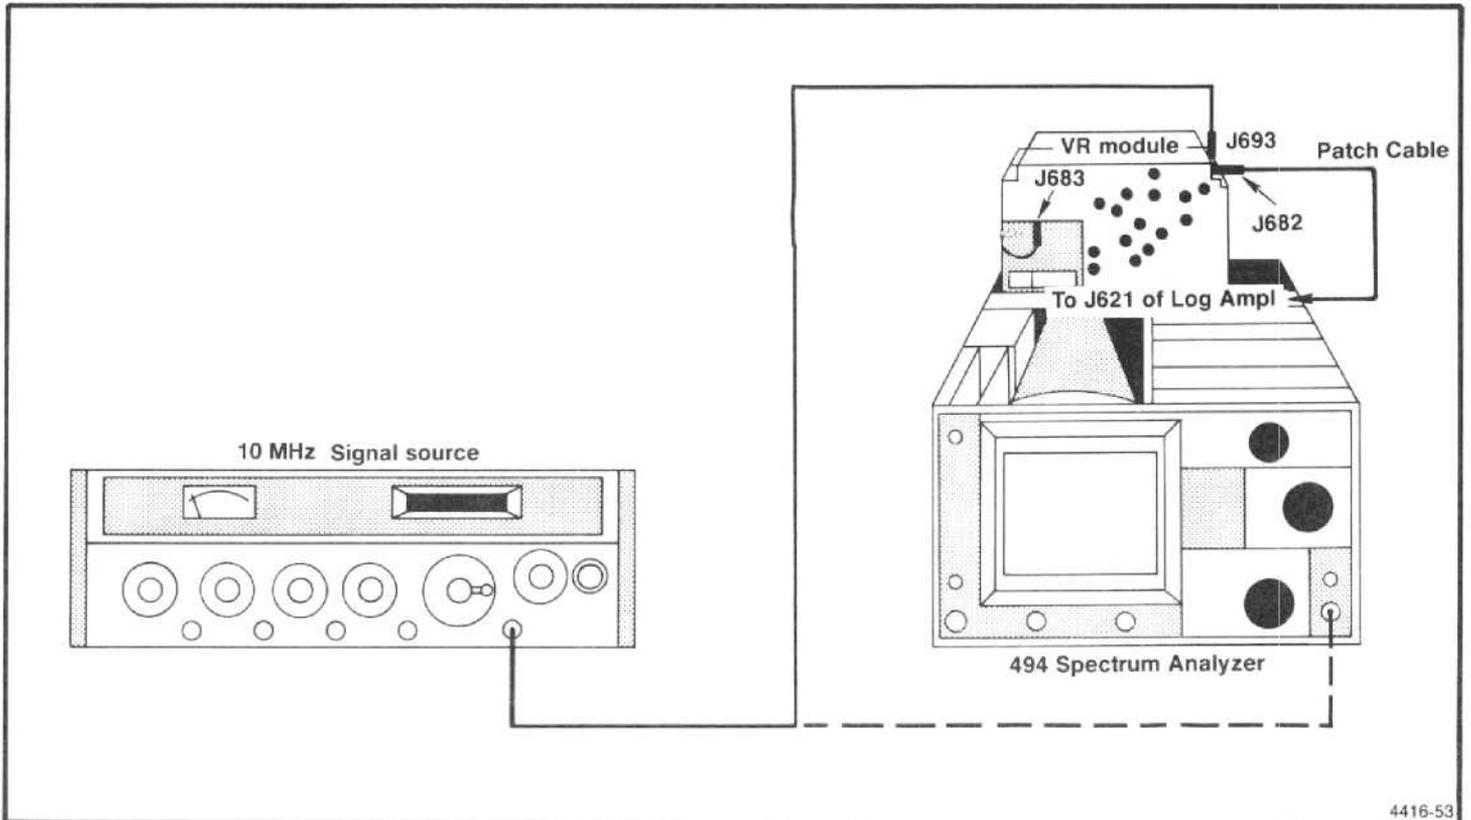
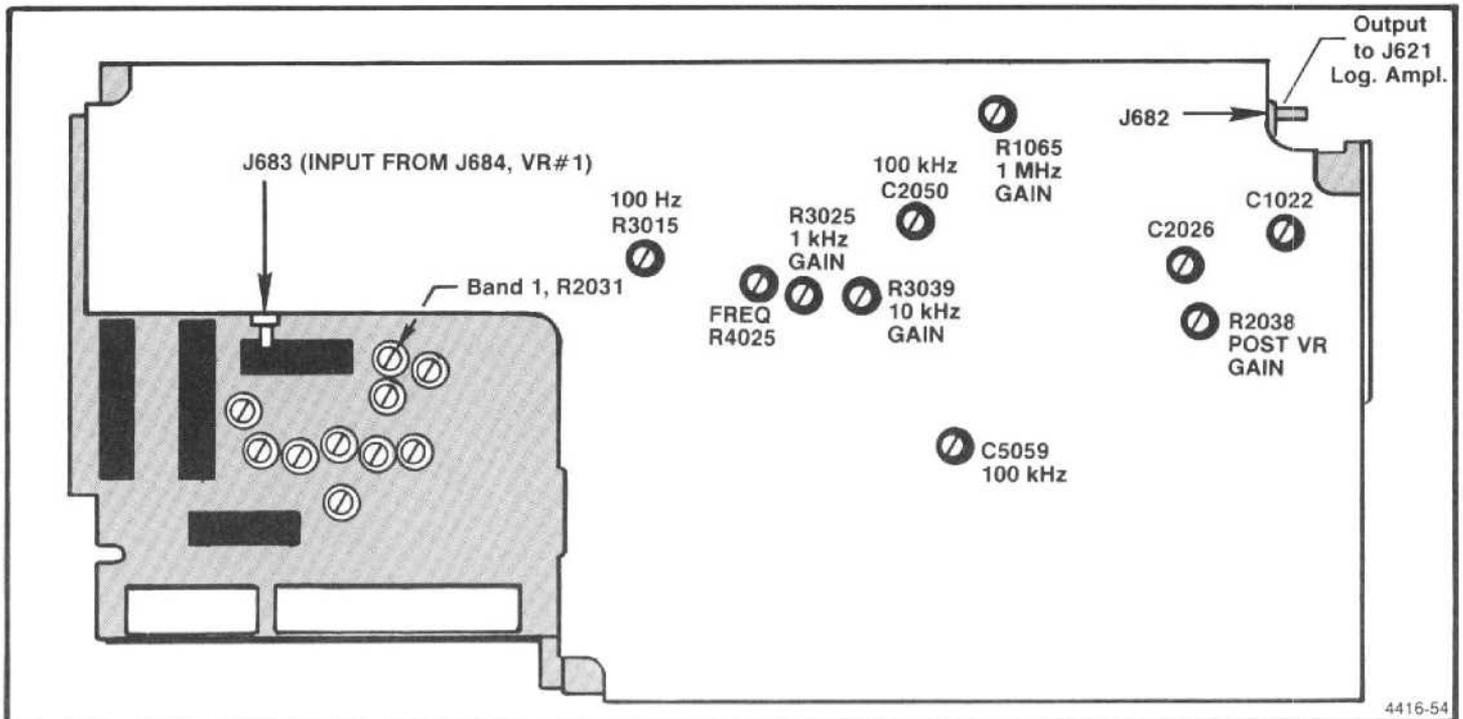
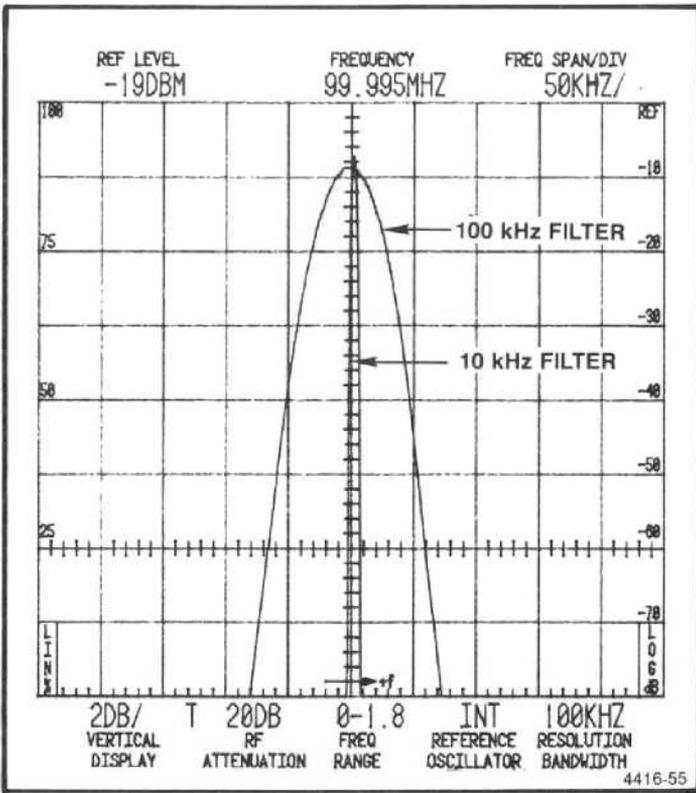

Figure 5-18. Equipment setup for calibrating the VR system.
Figure 5-19. Adjustments on the VR#2 module.
Figure 5-20. Response of the 100 kHz filter over the response of the 10 kHz filter.
a. Equipment setup is shown in Figure 5-18.
(1) Remove and install the VR module on an extender. Connect the output 10 MHz IF signal, from the 3rd Converter, to the input of the VR#2 section. Use a Sealectro male-to-male adapter and coaxial cable to connect between P693 and J683.
(2) Connect the output of VR#2 to the input of the Log Amplifier assembly by connecting a cable from J682 to J621 (see Figures 5-18 and 5-17).
(3) Apply the CAL OUT signal to the RF INPUT. Set the FREQUENCY to 100 MHz, FREQ SPAN/DIV to 50 kHz, RESOLUTION BANDWIDTH to 10 kHz, REF LEVEL to -20 dBm, and activate 2 dB/DIV.
d. Adjust C2050 and C5055 on the 2nd Filter Select in VR#2 (Figure 5-19) for the best 100 kHz filter response (100 kHz bandwidth, 3 dB down, that is centered about the 10 kHz reference). Refer to Figure 5-20.
f. Switch the FREQ SPAN/DIV to 500 kHz and the RESOLUTION BANDWIDTH to 1 MHz. Adjust REF LEVEL to set the 1 MHz response amplitude to that of the 10 kHz reference, then adjust C2026 and C1022 (Figure 5-20) for the best 1 MHz response centered about the 10 kHz filter response.
h. Adjust the frequency of the temperature compensated crystal filter with R4025 (Figure 5-19) for maximum signal amplitude. Deactivate SAVE A.
Locations of the adjustments are shown in Figure 5-20 and 5-21. If any change is made in the 100 Hz response the 30 Hz Gain should be readjusted.
b. Test equipment setup is shown in Figure 5-18. Set the FREQ SPAN/DIV to 1 MHz, RESOLUTION BANDWIDTH to 100 kHz, REF LEVEL at -20 dBm, and activate 2 dB/DIV.
(1) Remove the cover for the VR#2 module. Disconnect the jumper connector to the input of the Post VR Amplifier (pin JJ).
(2) Apply a 10 MHz, -14 dBm signal, from a 50 Ω signal source, to pin JJ of the amplifier.
(3) Adjust Gain R2038 for a full screen display.
- (4) Remove the signal from the input to the Post VR Amplifier and replace the jumper connector to pins JJ at the input to the Post VR Amplifier. Replace the cover for the VR#2 module.
- d. Adjust the front panel AMPL CAL to its fully counterclockwise position and set the Band 1 Gain R2031 on VR#2 (Figure 5-19) fully counterclockwise.
- f. If the signal amplitude is over 5 divisions, adjust Post VR Gain R2038 on VR#2, (Figure 5-19) for a 5 division signal amplitude. If the signal amplitude is less than 5 divisions proceed to part "g" of this step.